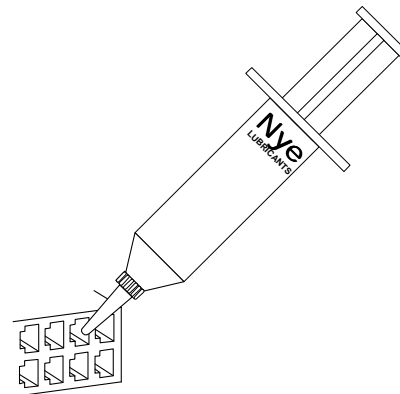

Figure 2
4. **Lubricate** each terminal using Nye 760G lubricant as shown in figure 2. Apply enough lubricant to each terminal opening to completely fill each opening to a depth of .125" minimum.